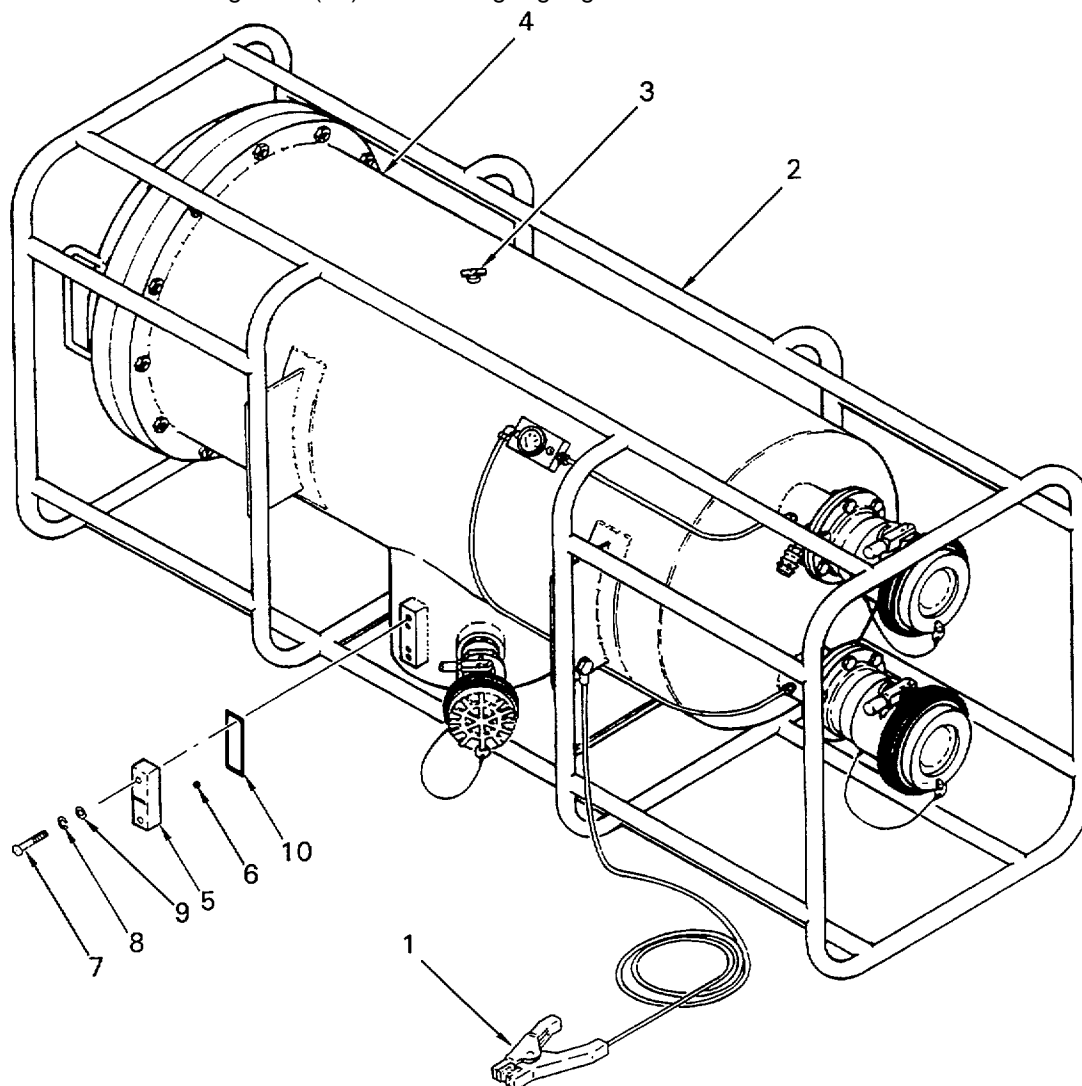

Figure 4-13. Sight Gauge Components
a. Removal. (Figure 4-13)
- (1) Connect the liquid fuel filter-separator grounding cable (1) to a secure ground.
- (2) Tip liquid fuel filter-separator (2) up on end.
- (3) Depress and latch open the manual vent valve (3) to relieve any pressure from filter vessel (4).
- (4) Place container close beneath sight gauge (5). When sight gauge (5) is separated from filter vessel (4), the small float ball (6) may drop out. Use the container to capture the float ball (6) and prevent loss.
- (5) Remove the two mounting screws (7) lock washers (8) and flat washers (9) that secure the sight gauge (5) to the filter vessel (4). Slowly remove the sight gauge body (5), capturing the float ball (6) in the container.
- (6) Remove and discard the gasket (10) from the sight gauge.
b. Installation. (Figure 4-13.)
- (1) Wipe clean the gasket surface.
- (2) Insert and hold mounting screws (7), lock washers (8) and flat washers (9) in sight gauge (5) body. Position gasket (10) over screws (7). With sight gauge (5) body in a horizontal position, place float ball (6) in groove. Install as an assembly, bottom first to prevent ball (6) falling out. Tighten mounting screws (7) finger tight.
- (3) Torque the mounting screws (7) evenly to 45 in lbs.
- (4) Close the manual vent valve (3).
- (5) Replace grounding cable (1) in stowage location.